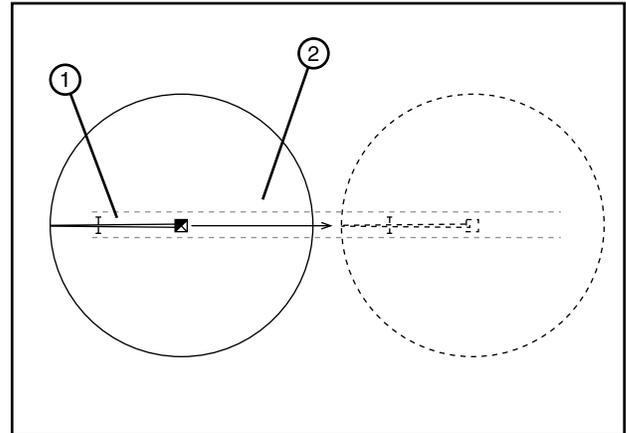

Figure 43-1 1. Machine
1. Position the machine in the tow lane. When positioning the center pivot, always use the "STOP" button on the control panel to stop the center pivot. NEVER stop the center pivot with the control panel or service disconnect switches. See figure 43-1.